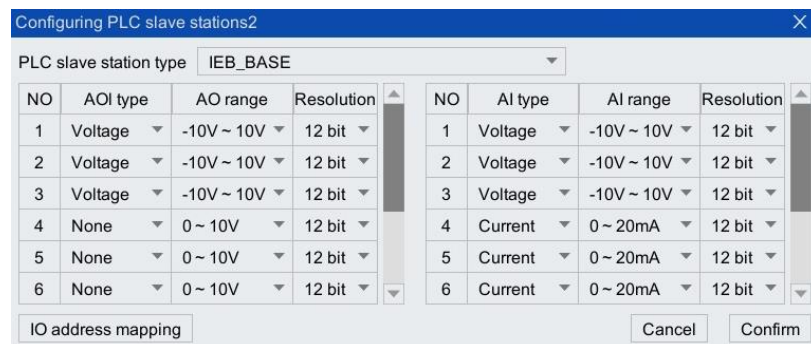

Figure 18-35 [Configuring PLC slave] interface parameter configuration example
Step7. Select "IEB" or "IEB\_BASE" in [PLC Slave Type], and configure the type and range of AO and AI signals as shown in Figure 18-35.